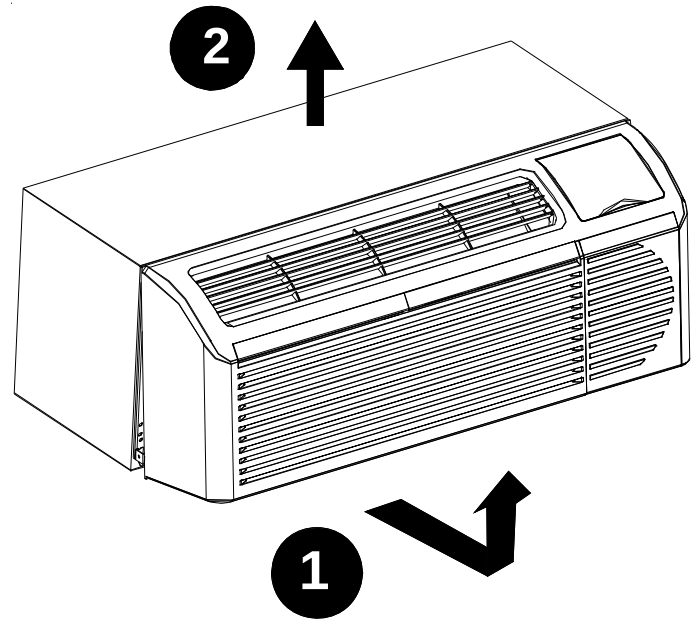

Figure 8
3. Remove front panel by gently pulling out the bottom to release it from the tabs then lifting up. See Figure 8.
1. Remove front panel. See Figure 8.
To access the controls, remove front panel. See Figure 8. Dip switches are accessible without opening the control box. The unit must be turned **OFF** to effectively change their status.